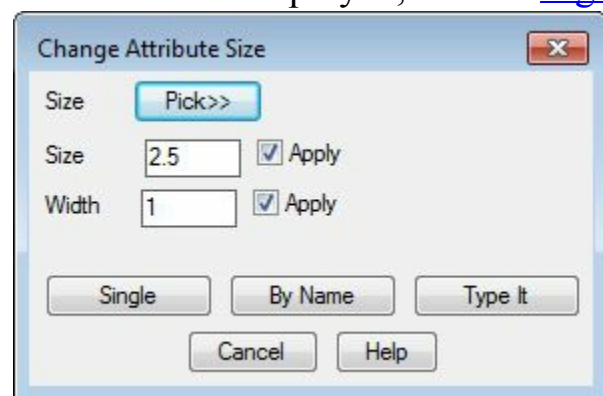

Figure-35. Change Attribute Size dialog box
- Click on the **Attribute Size** option from the cascading menu. The **Change Attribute Size** dialog box will be displayed; refer to Figure-35.